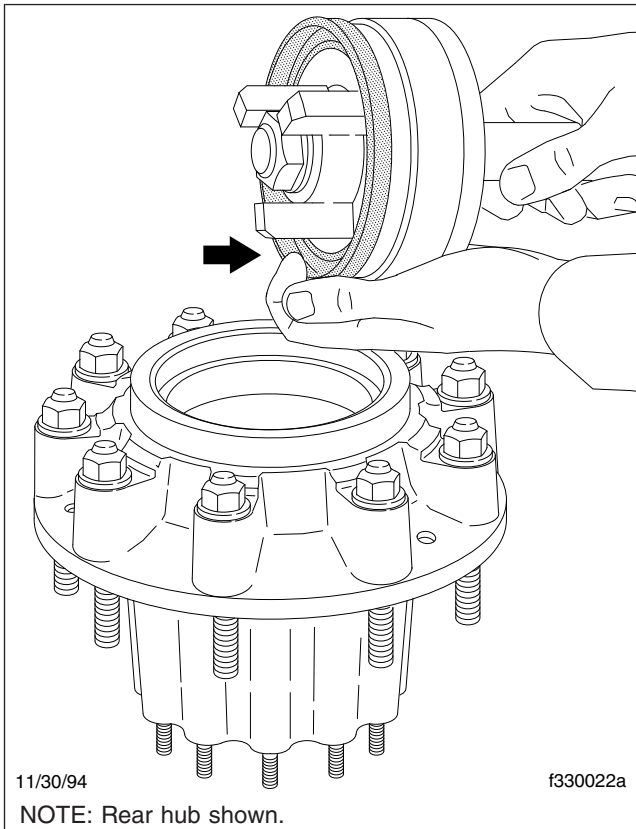

Fig. 3, Place the Seal on the Installation Tool
9. Seat the small outside edge of the seal in the recess of the tool adaptor. See Fig. 3. The correct adaptor is identified on the box.